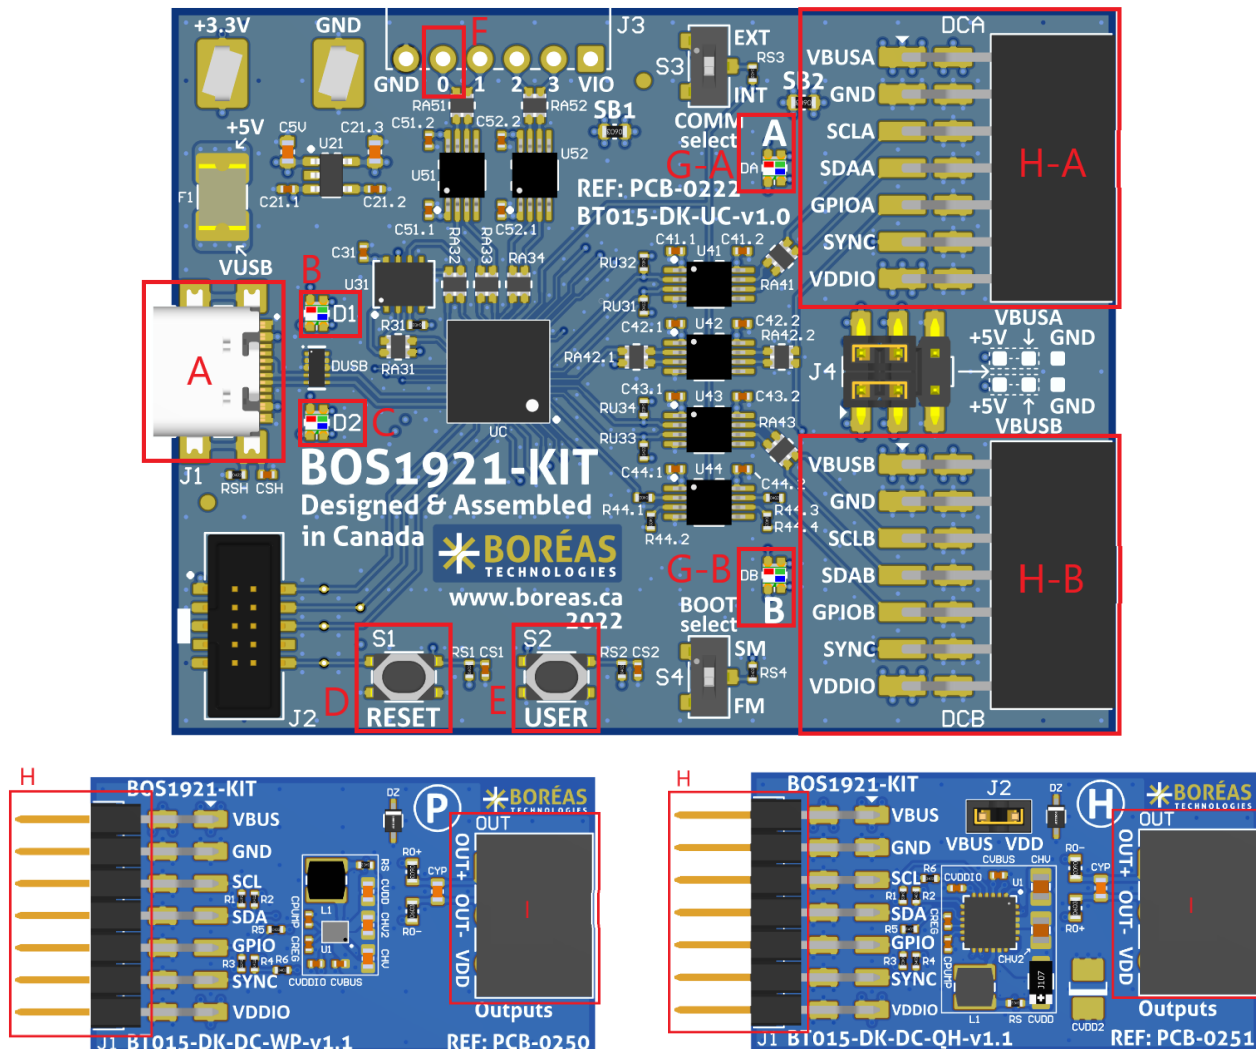

Figure 2: BOS1921-KIT board user interface
4. Using a small slotted screwdriver, install a piezoactuator on the terminal block plugs. **Pay attention to connect the positive wire on the OUT+ terminal and the negative wire on the OUT- terminal.** Refer to Figure 2 to identify location of OUT+ and OUT- on the terminal block.